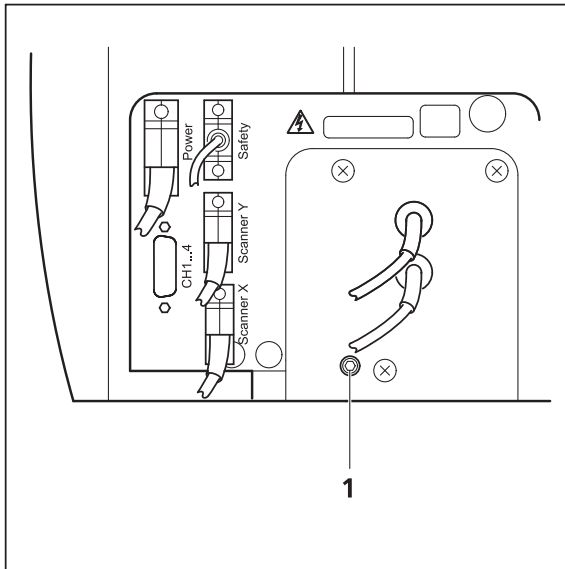
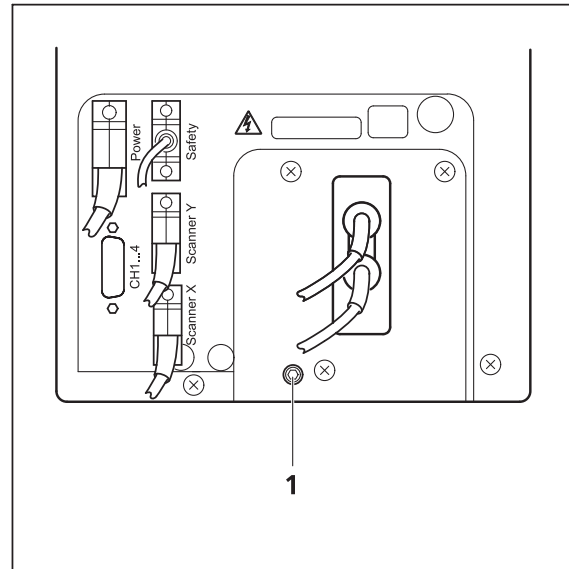
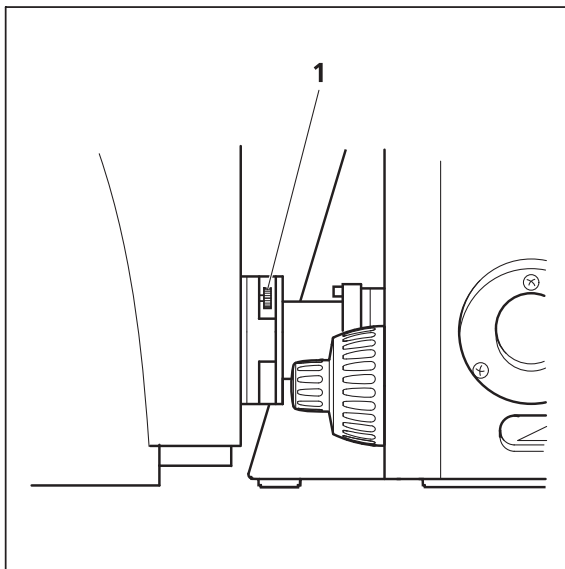
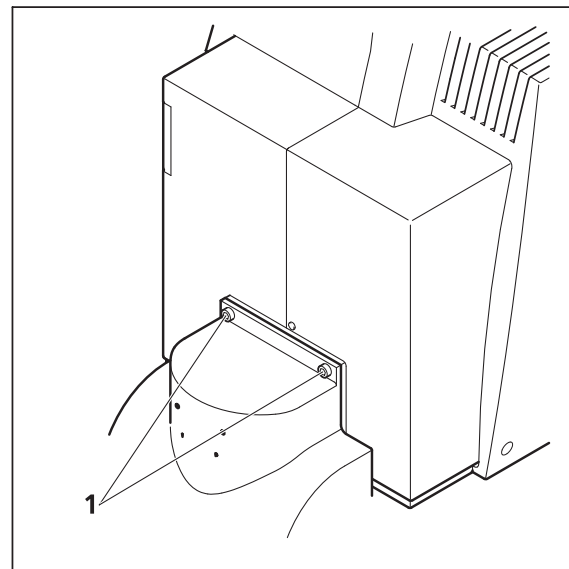

Fig. 7-7 Position of the screw on the LSM 510 META scan head
Fig. 7-8 Position of the screw on the LSM 510 scan head
Fig. 7-9 Port connection between LSM and Axio Observer.Z1
Fig. 7-10 Fastening screws of the scan head at the front of the tube on Axioskop 2 FS MOT and Axio Imager.Z1
- Loosen the screw on the lower end of the scan head (Fig. 7-7/1 and Fig. 7-8/1)
- Loosen the screws on the port to the microscope for Axio Observer.Z1 (Fig. 7-9/1) or to the tube on Axio Imager.Z1 and Axioskop 2 FS MOT (Fig. 7-10/1).
- Slowly pull the scan head away from the microscope port or the tube. For mounting the scan head onto a microscope, make sure the pins and the electronic connections of the safety interface match closely. Fasten the screws on the front of the tube (Fig. 7-10/1) or at the microscope port (Fig. 7-9/1) followed by fastening the screw on the back of the scan head (Fig. 7-7/1 and Fig. 7-8/1).